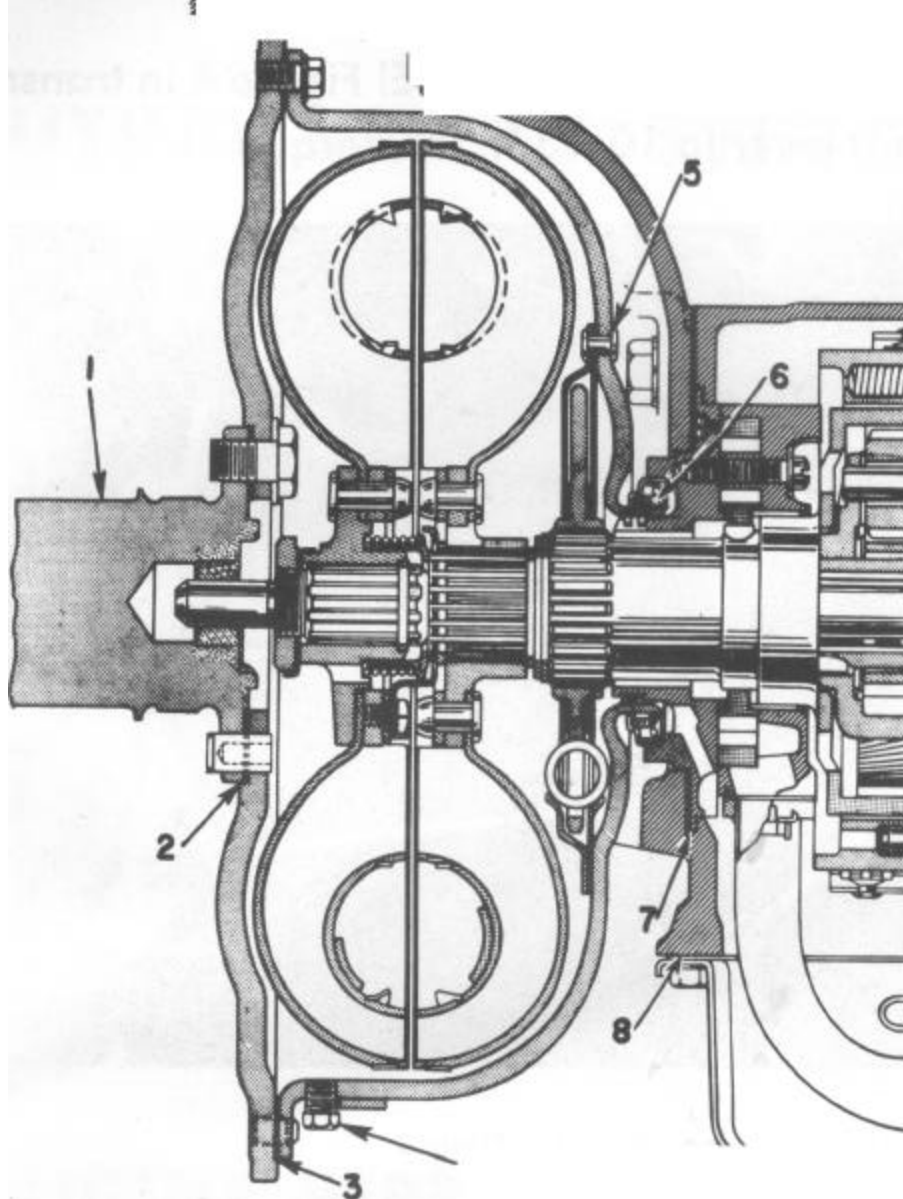

Figure 5
6. Holding the transmission throttle lever (H) against its stop in the transmission by pushing the transmission throttle rod rearward lightly, Figure 5, adjust the transmission throttle rod so trunnion pin will slide freely into the accelerator pedal link bell crank lever M.